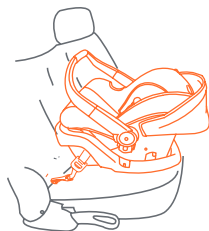

Fig. 57-1
- Safety Seat with Base:** Make sure the vehicle is parked on level ground. Lock the Safety Seat onto the Base and check that the Safety Seat is level side to side on the vehicle seat (Fig. 57-1).